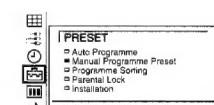

Fig. 6
- Select the symbol for »Preset« with $\Delta+$ or $\nabla-$ and press OK. The PRESET menu appears. (See Fig. 6.)